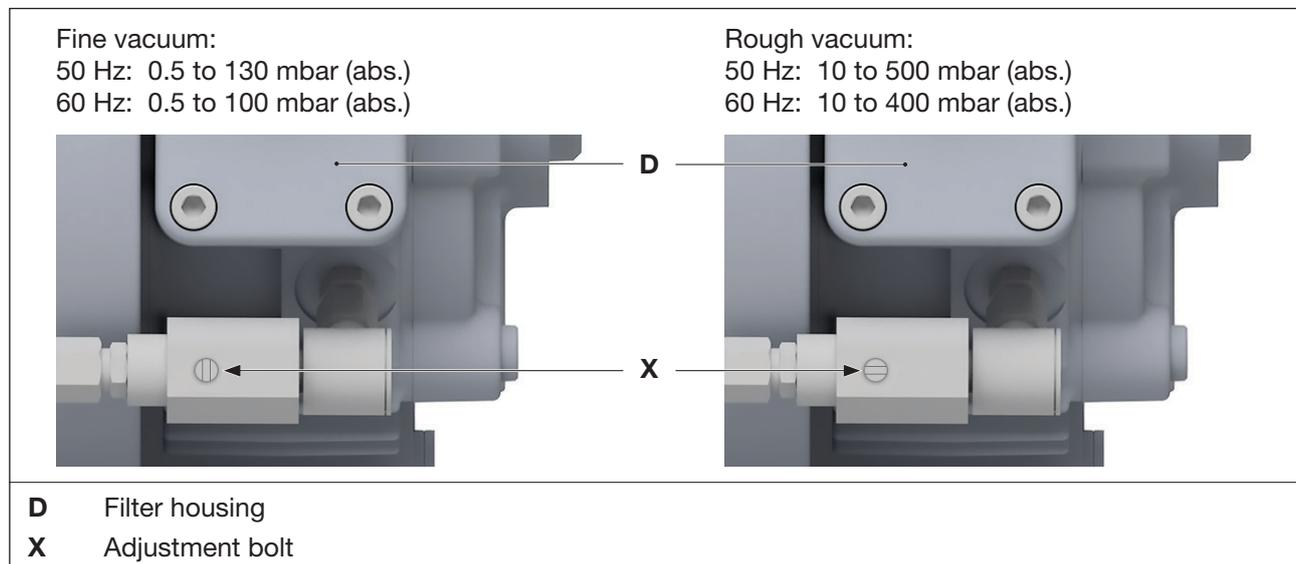

Fig. 5 Set operating range for variant VCE 25 (09)
- Set the adjusting bolt (Fig. 5/X) to the desired operating range with a screwdriver. The positions for fine vacuum and rough vacuum are shown in Fig. 5.